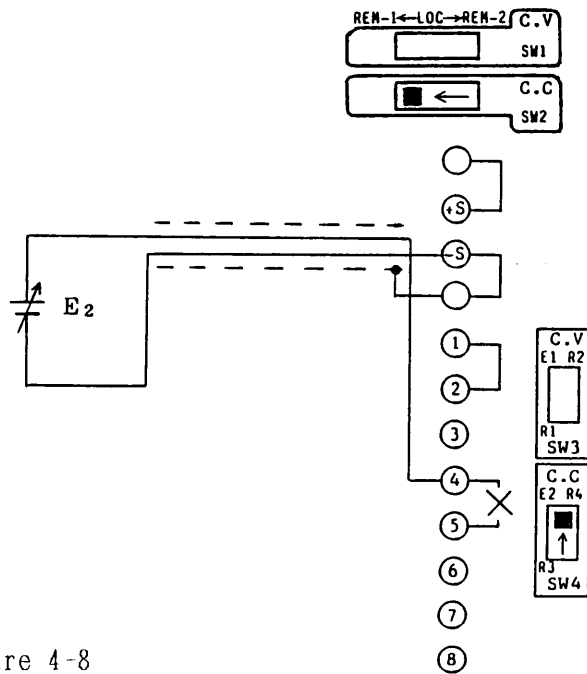

Figure 4-8
- (1) Turn off the POWER switch.
- (2) Throw the SW2 switch of the rear panel to REM-1.
- (3) Throw the SW4 switch of the rear panel to E2.
- (4) Disconnect the jumper from between terminals ④ and ⑤ of the rear terminal block.
- (5) Connect the remote control voltage (E2) to between terminals ⑤ and ④, with terminal ④ for the positive polarity line.
- (6) Connect an ammeter (a shunt resistor) between the OUTPUT terminal.
- (7) Turn on the POWER switch. (Turn on the OUTPUT switch.)
- (8) Adjust offset (at zero amperes) with the A.os control of the service panel.
- (9) Regarding the switches for which no settings are specified in Figure 4-8, set them to the standard states as shown in Figure 2-19 (See Section 2.4.) or to appropriate states for respective modes (See Sections 4.1 through 4.11.).